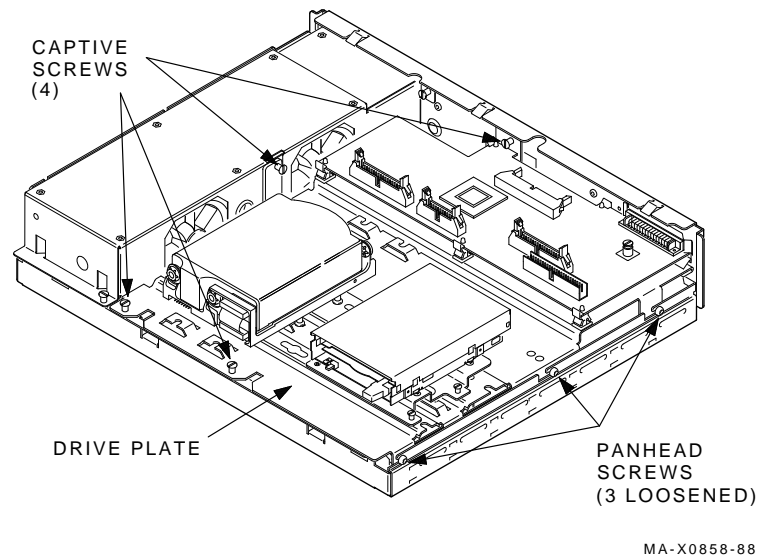

Figure 7-9 Drive Plate Screw Locations
1. Position the drive plate on the system box (Figure 7-9), making sure that the MSC cable is not trapped under the drive plate.